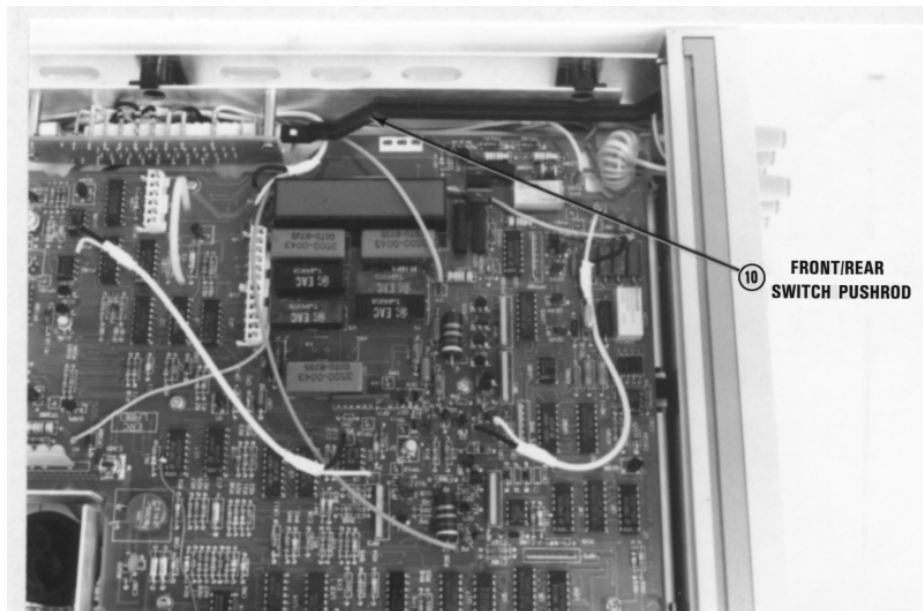

Figure C-8 Front/rear terminal switch and pushrod location
- 3** Refer to **Figure C-8**. Locate the pushrod for the Front/Rear Terminal switch. Pull the pushrod off. You may need to pry the pushrod loose with a small flat blade screwdriver. Set the switch in the position it is to be used.